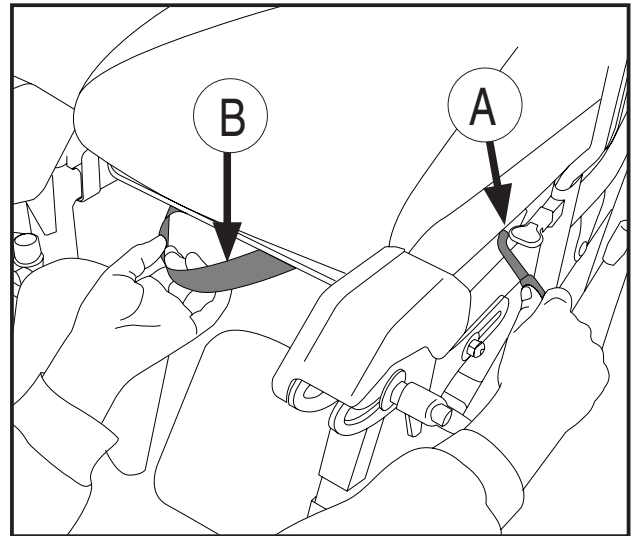

Figure 12
Sliding seat *Figure 12*
- Use the sliding seat to move the user as far forwards in the chair as possible (see Figure 12, page 9)